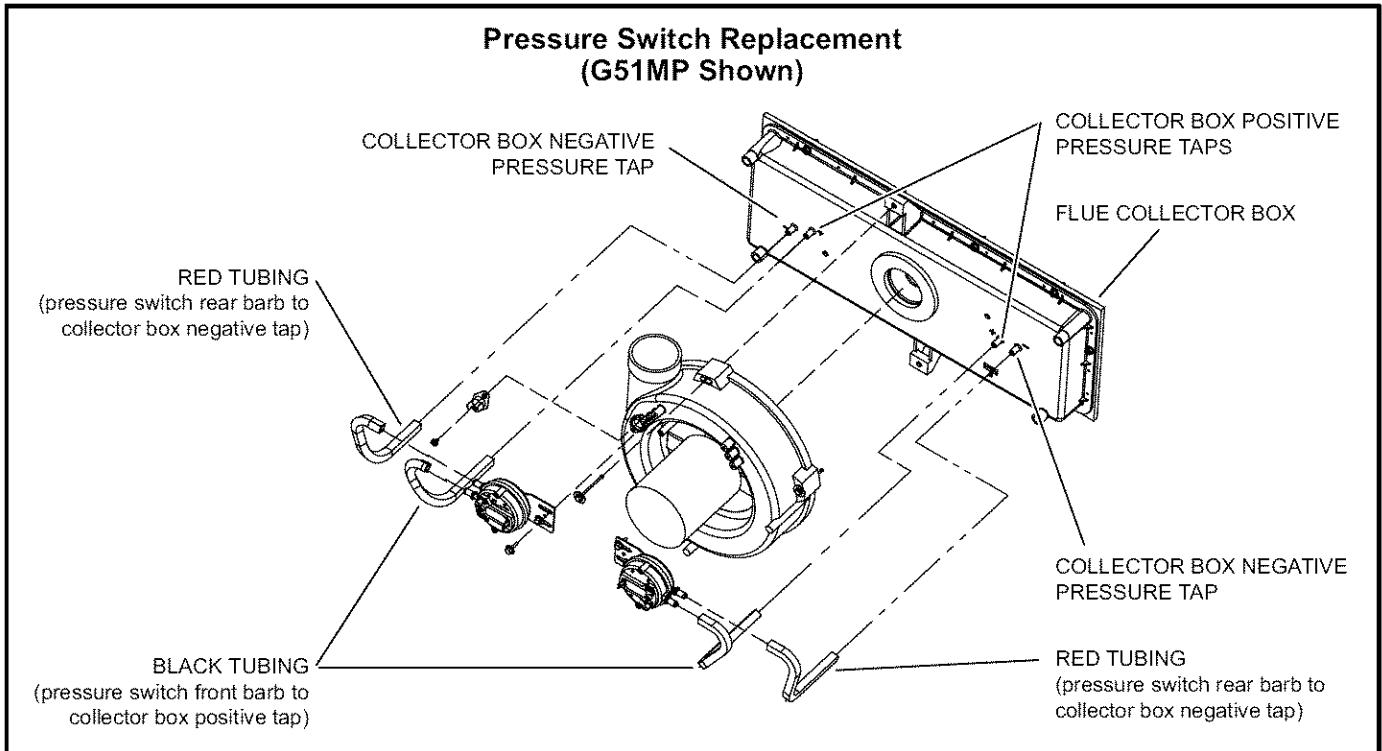

FIGURE 6
- c - Securely attach flexible tubing to fitting on replacement pressure switch assembly(ies). See figure 6. Ensure that tubing is routed correctly.